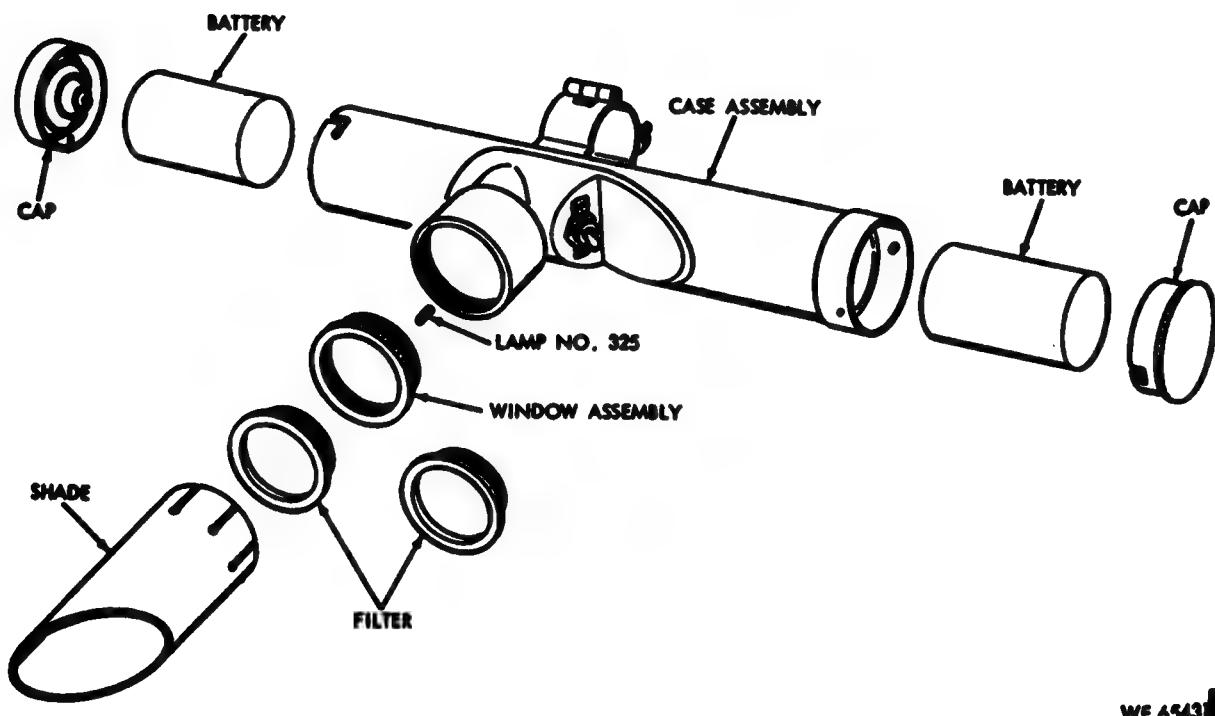

Figure 172. Aiming post light M14 — partially exploded view.
(2) To replace batteries in the aiming post light M14 (fig. 172), remove cap from one end and cover from the opposite end of the case. Both the cap and cover are secured by bayonet pins and are removed by pressing the cap or cover inward and turning slightly until free.
(2) To remove a defective lamp in aiming post light, refer to figure 172.